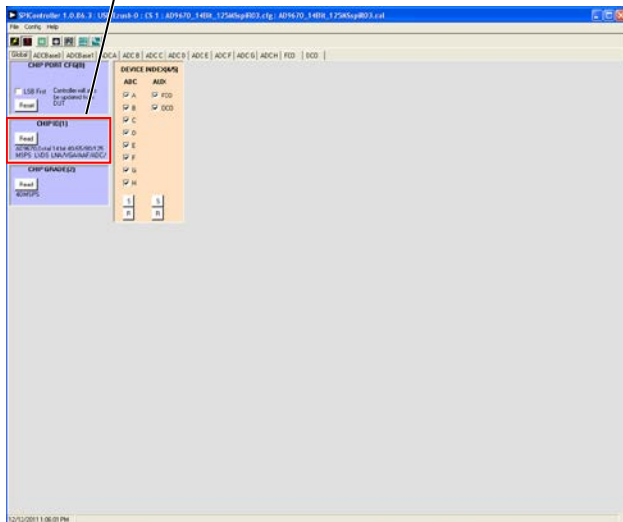

Figure 2. SPIController Main Window
4. Launch the SPIController software to open the window shown in Figure 2 and select the AD9670.cfg file from the dropdown list (under **File > Cfg Open Menu**). After the **Open File** dialog appears, browse for and select the AD9670_14bit_125MSspiR03.cfg file. The chip ID reads AD9670 (see Figure 2) after loading the AD9670.cfg file.